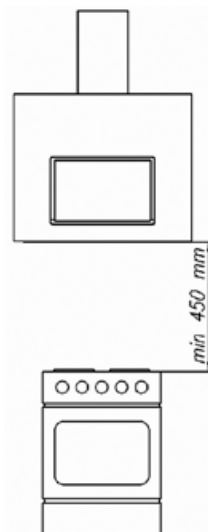
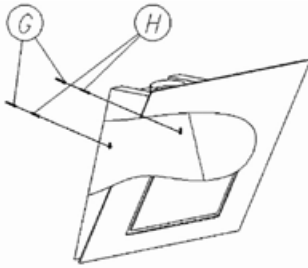

Fig. 4
Fig. 5
1. Mark the minimum required assembly height on the wall behind the hotplate (450 mm for electric, and 550 mm for gas hotplates, Fig. 4).
3. Open the filter casing (D) and remove the fat (or carbon) filter.
6. Mount the unit using the supplied wall plugs (G) and screws (H) at the required height (Fig. 5).